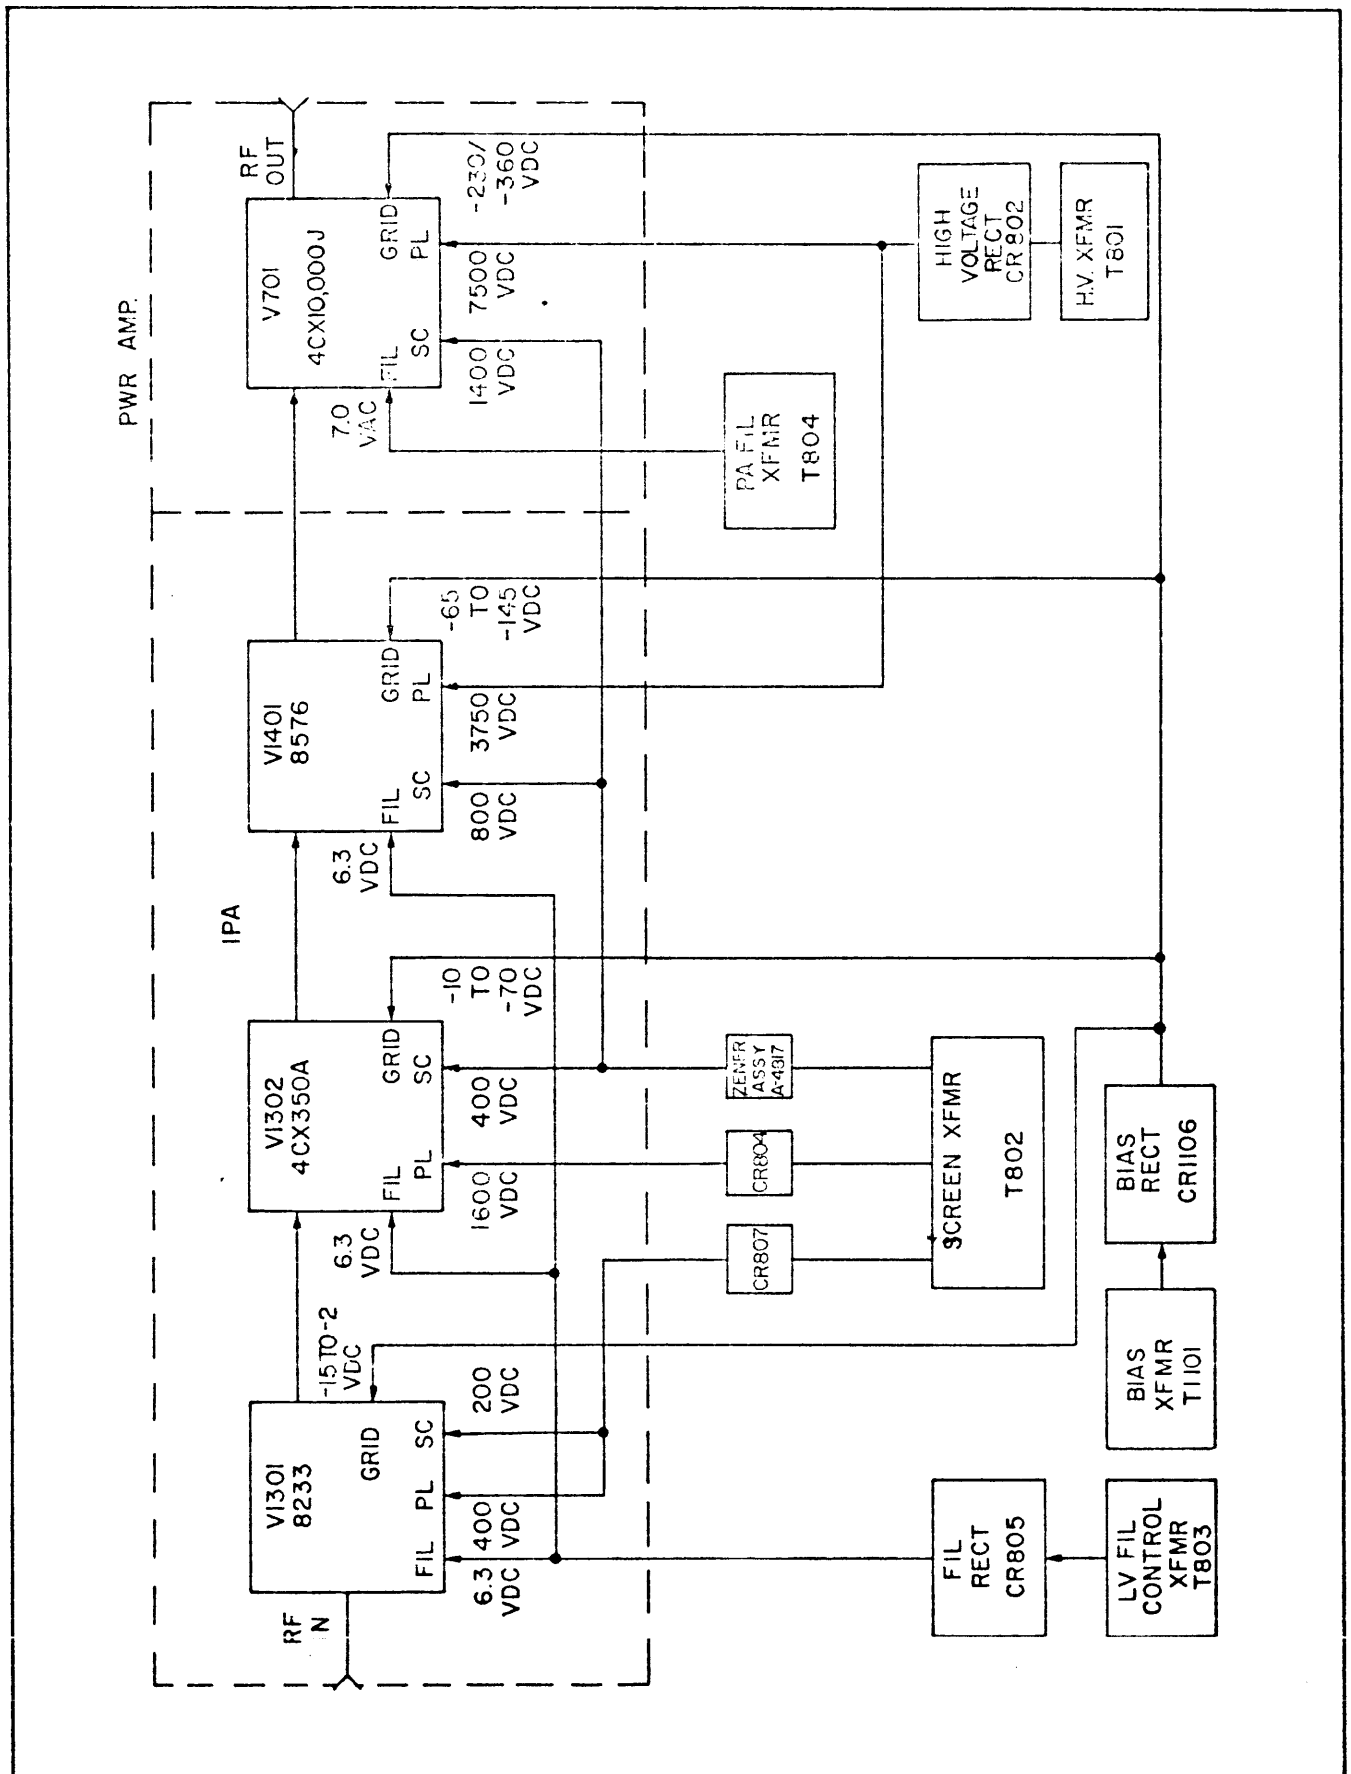

Figure 4-3. HFLM-10K Operating Potentials
b. DC Power Distribution. (Refer to figure 7-1, sheet 1 and figure 4-3)
(1) Plate Voltage - Application of 3 phase power input to the high voltage transformer, T801 provides plate voltage for the IPA and PA tubes. The PA plate voltage of 7500vdc is derived from a full wave bridge rectifier circuit, CR802A through CR802F, then filtered by C801 and L801 before application to the PA plate. Resistors R801 through R807 are bleeders for the supply. One half of the value of the PA plate voltage (3750vdc) is available at the neutral tap of T801 secondary. This 3700vdc is the plate voltage for the IPA tube and is filtered by L802 and C802 before application to the IPA plate.